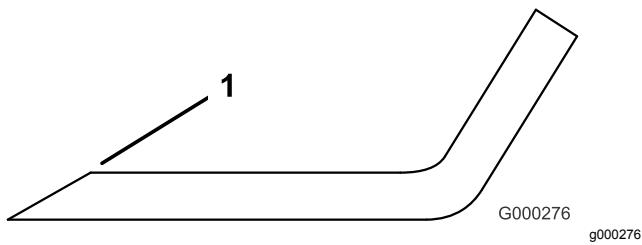

Figure 114
3. Examine the cutting edges of all of the blades and sharpen the cutting edges if they are dull or nicked (Figure 114).
**Note:** Sharpen only the top of the cutting edge and maintain the original cutting angle to ensure sharpness (Figure 114). The blade remains balanced if the same amount of metal is removed from both cutting edges.